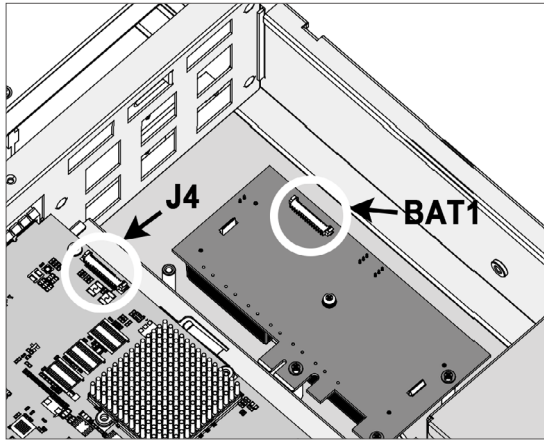

Figure B-8, Insert the cable connector into BAT1 & J4
3. Insert the cable connector into the **BAT1** (14-pin box header battery connector on ARC-1883-BAT/CAP module), and also insert another side of the cable connector into the **J4** (14-pin box header battery connector on ARC-8050T3-12R backplane), as shown in Figure B-8.